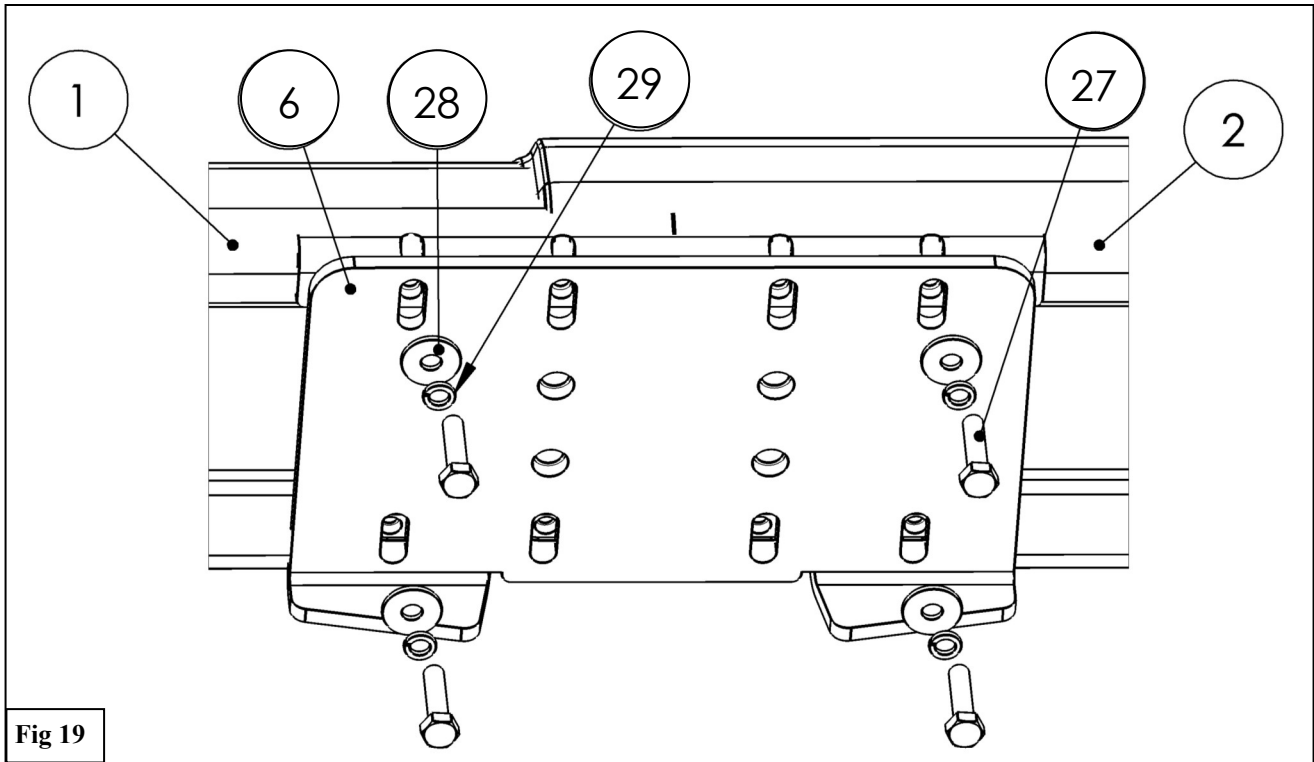

Fig 19
17. Obtain the Link Plate (6) and secure it to the Step Bar Assembly (1 & 2) using the supplied M6 Hardware. See Figure 19.